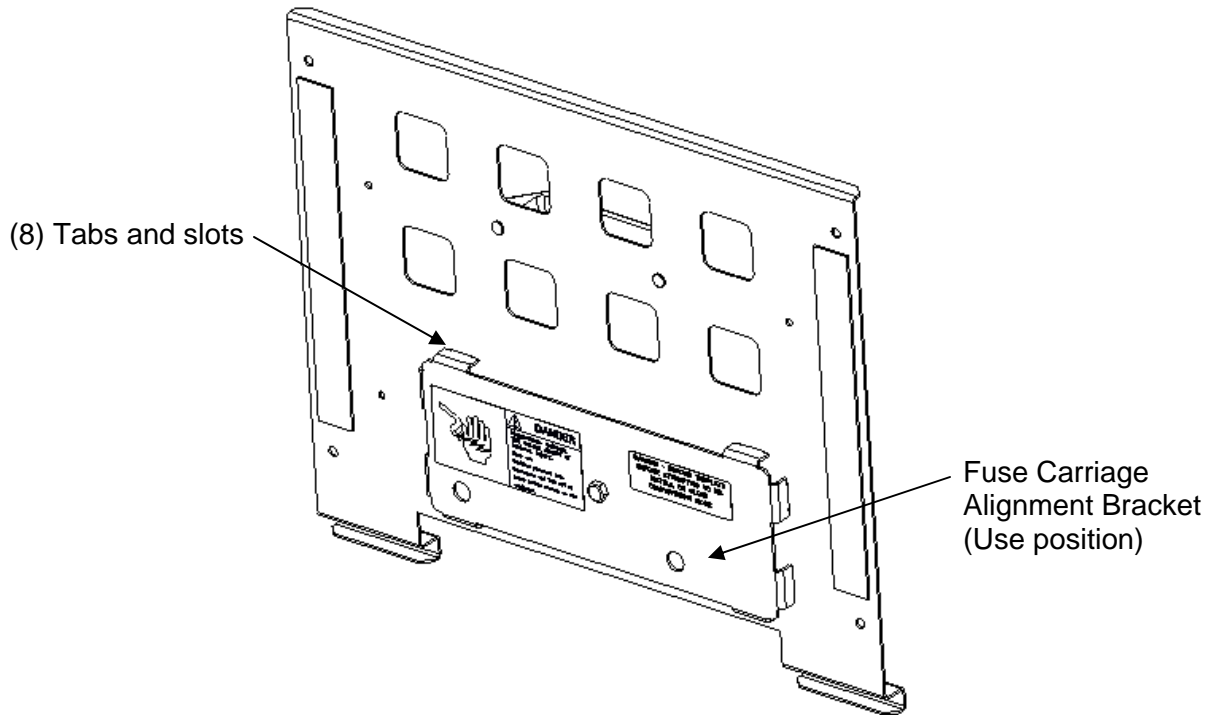

Fig. 3.2 Fuse Carriage Bracket (Use position)
2. Reassemble the Fuse Carriage alignment bracket to front side of template and retighten wing nut. Be sure that all 8 tabs are properly seated in the slots. See Fig 3.2.